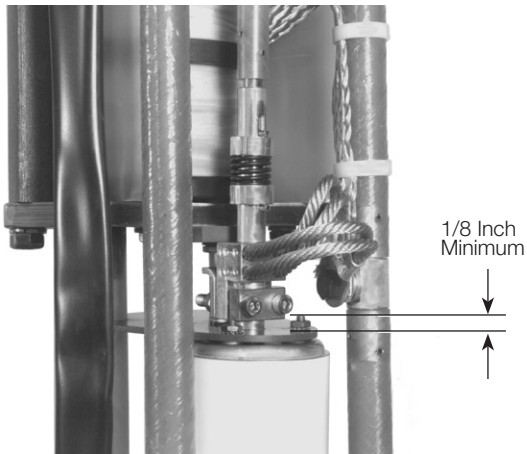

Figure 4. Measuring vacuum interrupter contact wear
- The interrupter contacts have eroded beyond their useful life, as evidenced by travel of the moving contact rod. See Figure 4.